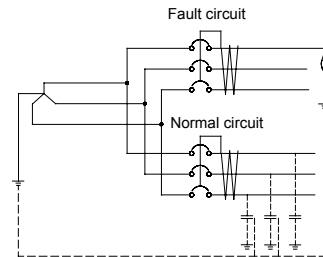

Fig. G-2 Sound circuit operation through ground electrostatic capacity
- 4) Sound circuit's operation during branch circuit ground as shown in Fig. G-2, if there is a ground at one point of a branch circuit, the ground current can flow on a closed sound branch circuit through ground electrostatic capacity. In this case, the ELCB of the sound circuit could possibly be operated so to prevent this, the sensibility current needs to be selected. d regarding of ground electrostatic capacity.